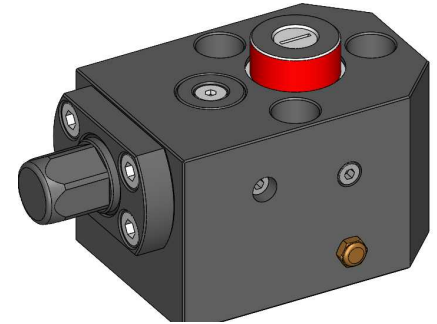

Figure 1
2. Visual Inspection (See Figures 1, 2, and 3)